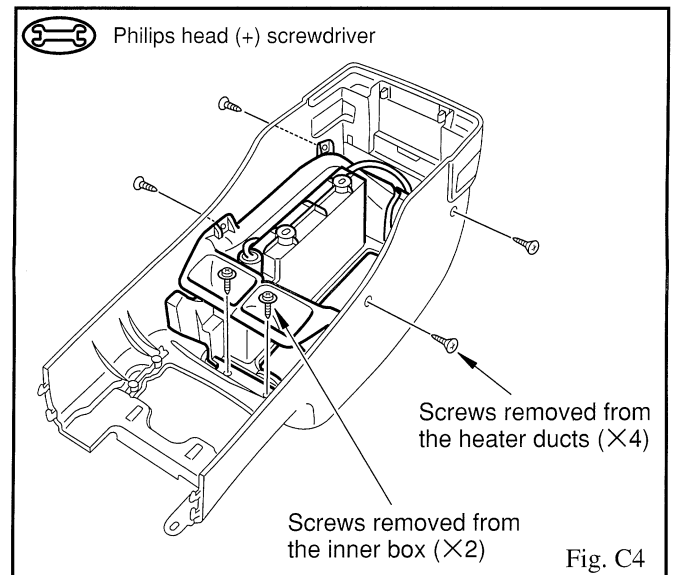

Fig. C4
- ➔ 4. Install the CD changer box and heater ducts (L and R) onto the rear console box. (Fig. C4)